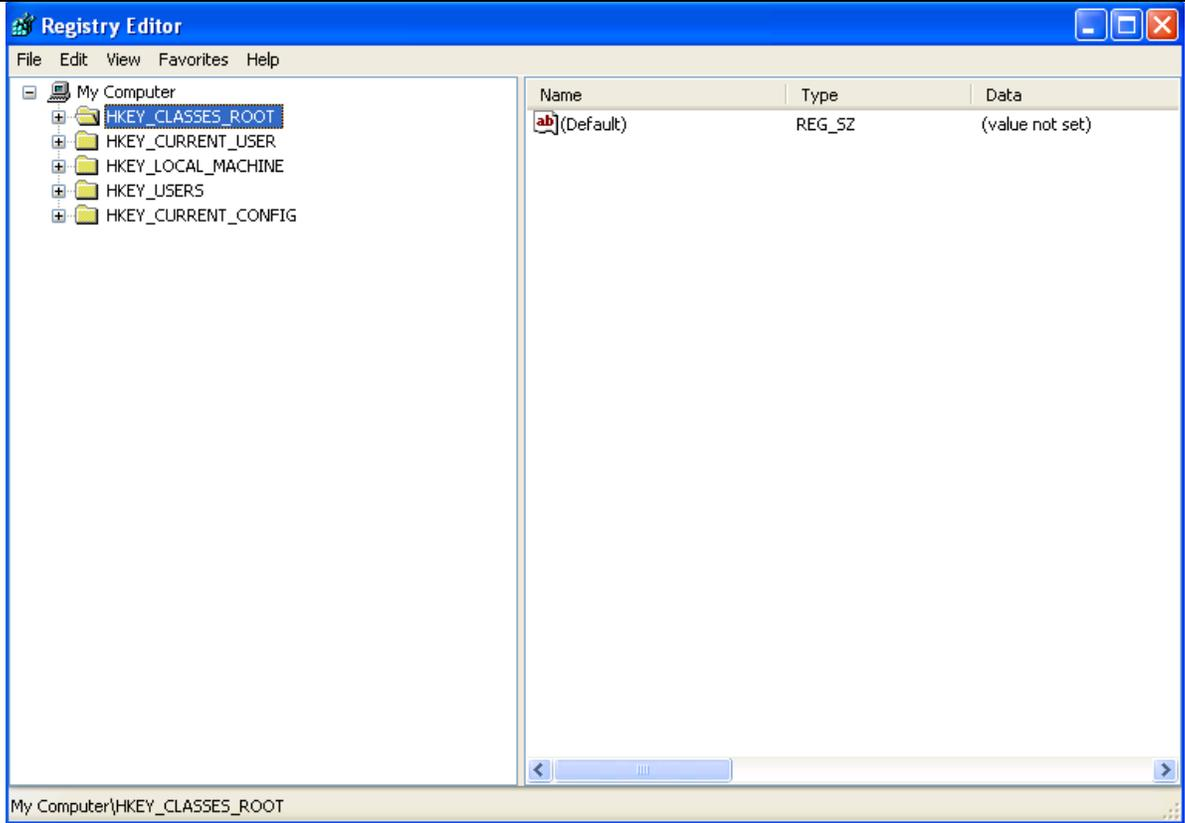

Figure 29 - Registry Editor
2. The **Registry Editor** (Figure 29) is launched.